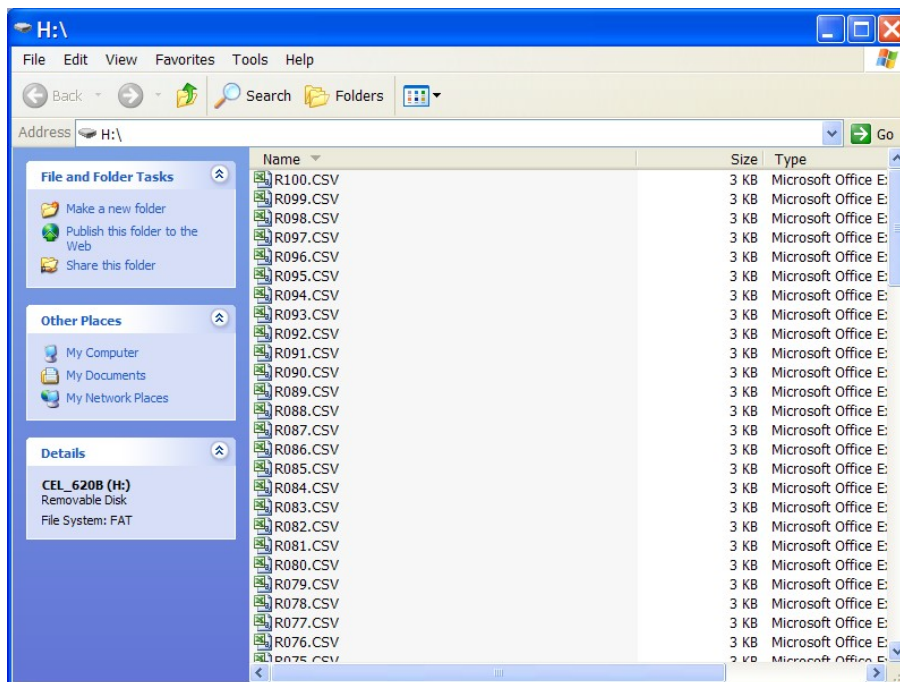

Figure 16 Measurement Data Files
I. EXTRACTING DATA (Refer to Figure 16)